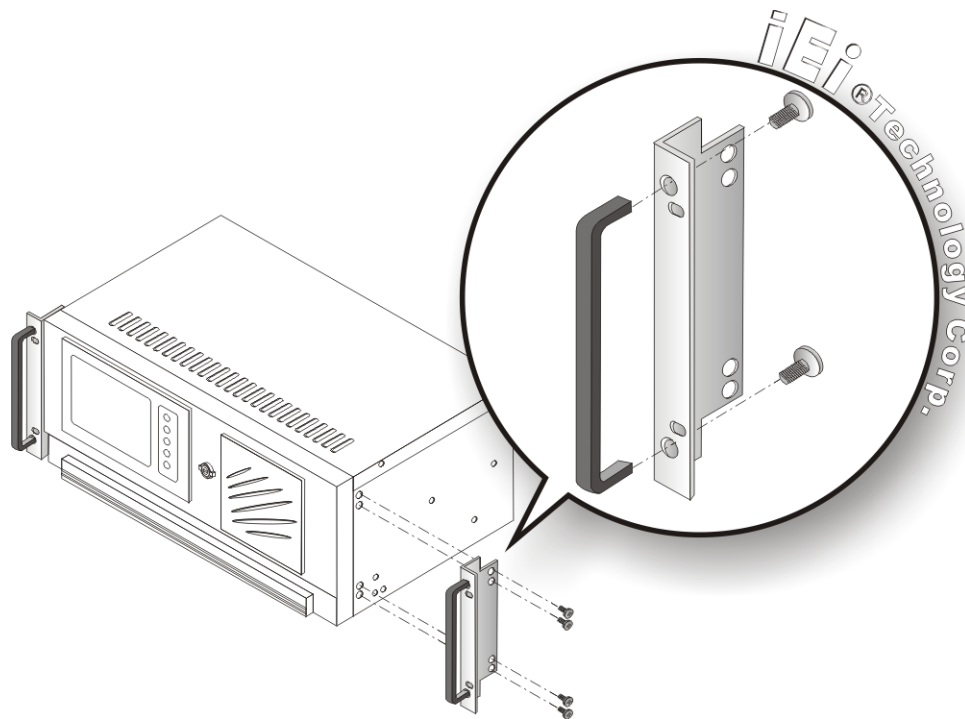

Figure 4-16: Rack Handle Bracket Assembly and Installation
Step 1: The left and right side panels of the workstation each have four screw holes for rack handle bracket installation. Assemble the rack handle brackets and secure them to the workstation. (See **Figure 4-16**)